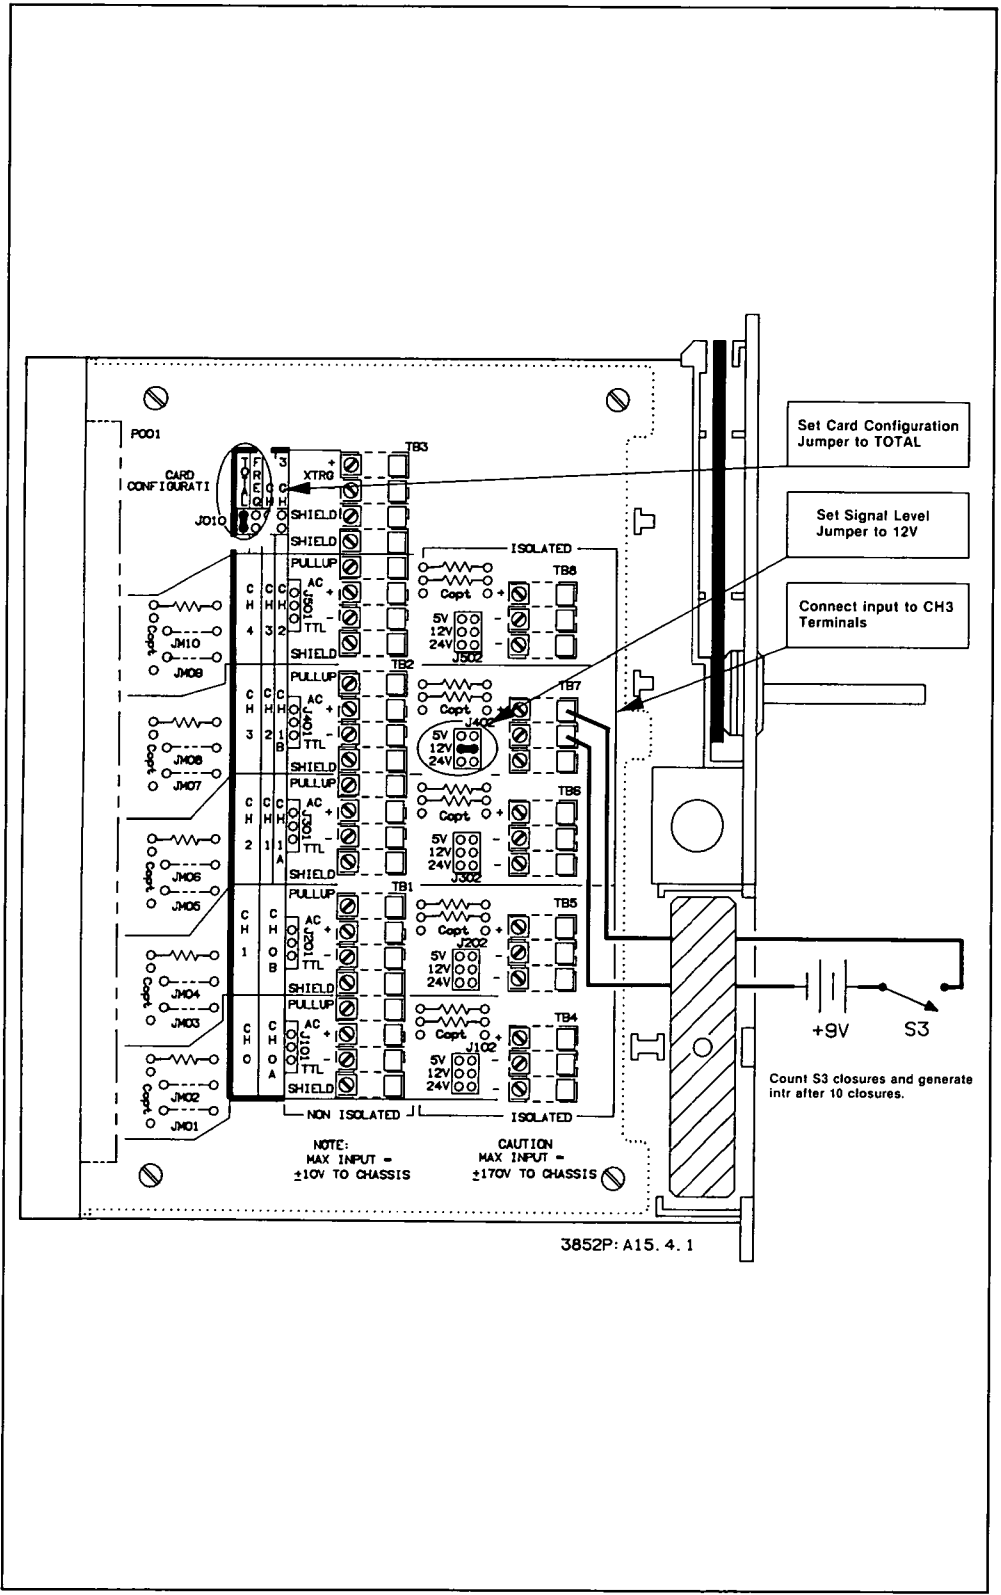

Figure 4-1. Example: Count Switch Closures
**Example:** This program totalizes the number of times a switch (S3) closes and generates an OVF interrupt when the switch closes 10 times. See Figure 4-1 for typical connections and counter configuration for channel 503 of a counter in slot 5 of the mainframe.